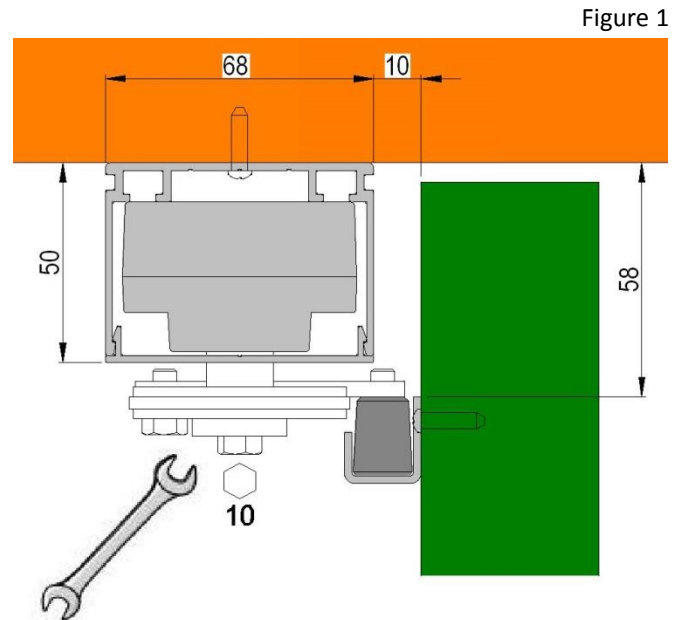

Figure 1
4.2 Fix the sliding guide to the leaf of the shutter, as shown in figure 1.